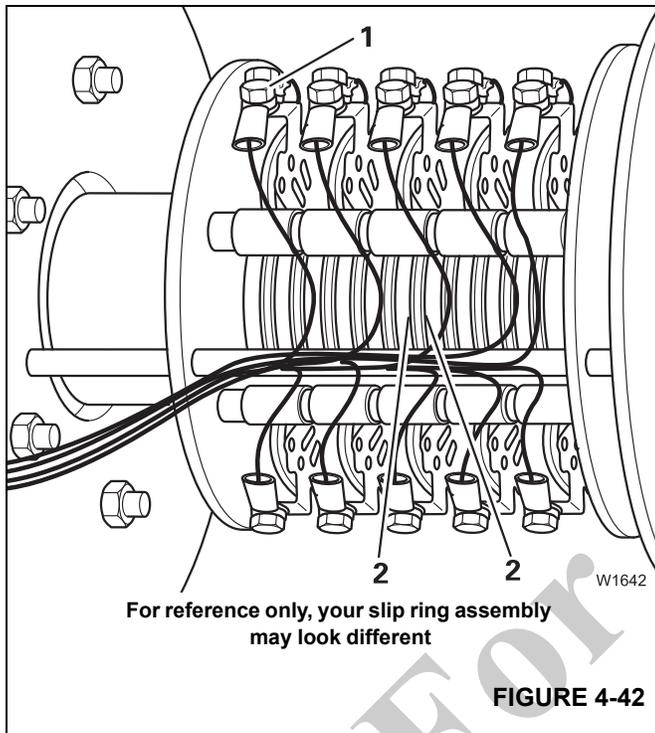

FIGURE 4-42
- Remove visible dirt on the slip rings (2), (Figure 4-42) with a clean, lint-free cloth.